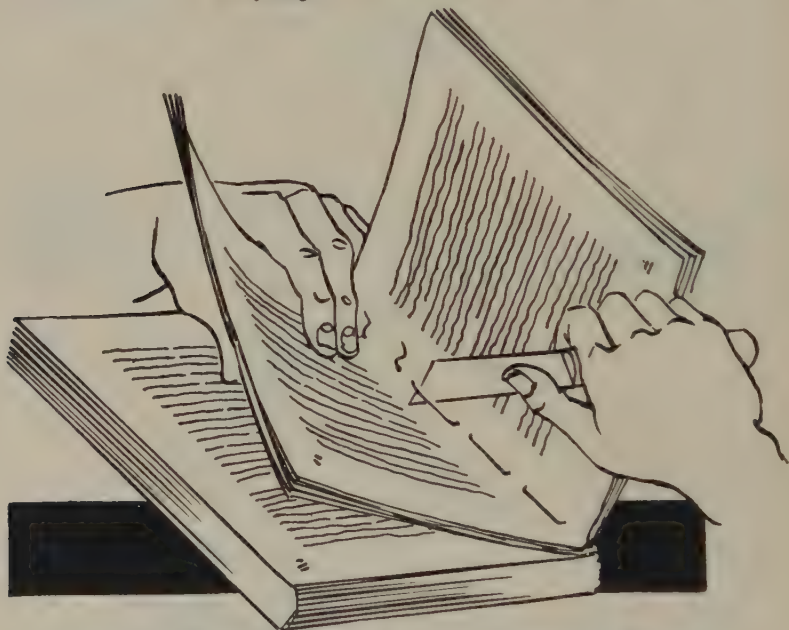

FIG. 158—CUTTING THREAD IN LOOPS, CENTER OF SECTIONS
6. Now open the book to the *center* of the first section and find the sewing threads. Carefully cut each pair of threads between stitches. To do this slip the point of your knife under the thread loops, and cut. (Fig. 158.)